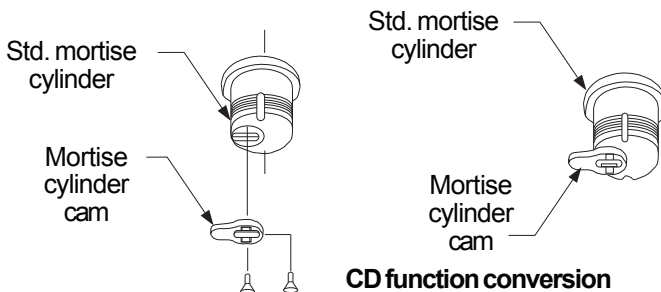

Figure 1
1. Remove mortise cylinder cam and reinstall in reverse (Figure 1).